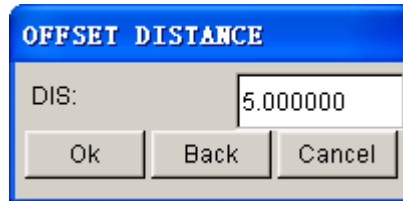

Figure 5.1.38 Offset Distance window
- Enter a positive offset distance in input field of the Offset Distance dialog box as illustrated in Figure 5.1.38.